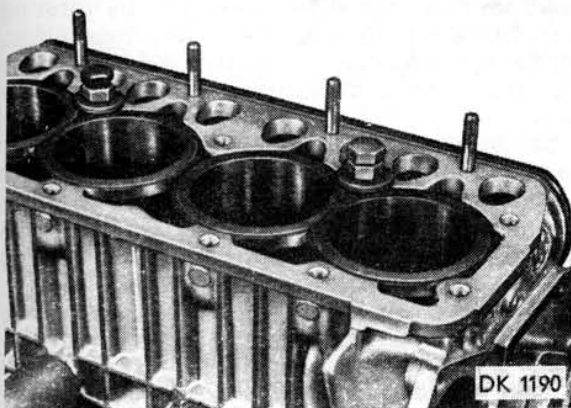

Fig. 2.3/9 - Locking Cylinder Liners in Position Using Bolts and Washers
16. Smear the crankpins with oil, check the pistons for correct position with respect to the camshaft (see Fig. 2.3/6), and assemble the connecting rods complete with the big end bushings and covers with the crankshaft. Tighten the nuts with a torque as per Chapter 1.8. Tap the covers home with a mallet and rotate the crankshaft several times to check the entire crank mechanism for free rotation. Check visually the axial clearance (play) of the big end on the crankshaft. If the nuts cannot be tightened by the specified torque, lock them in position with washers, Ordering No. 101-019670.